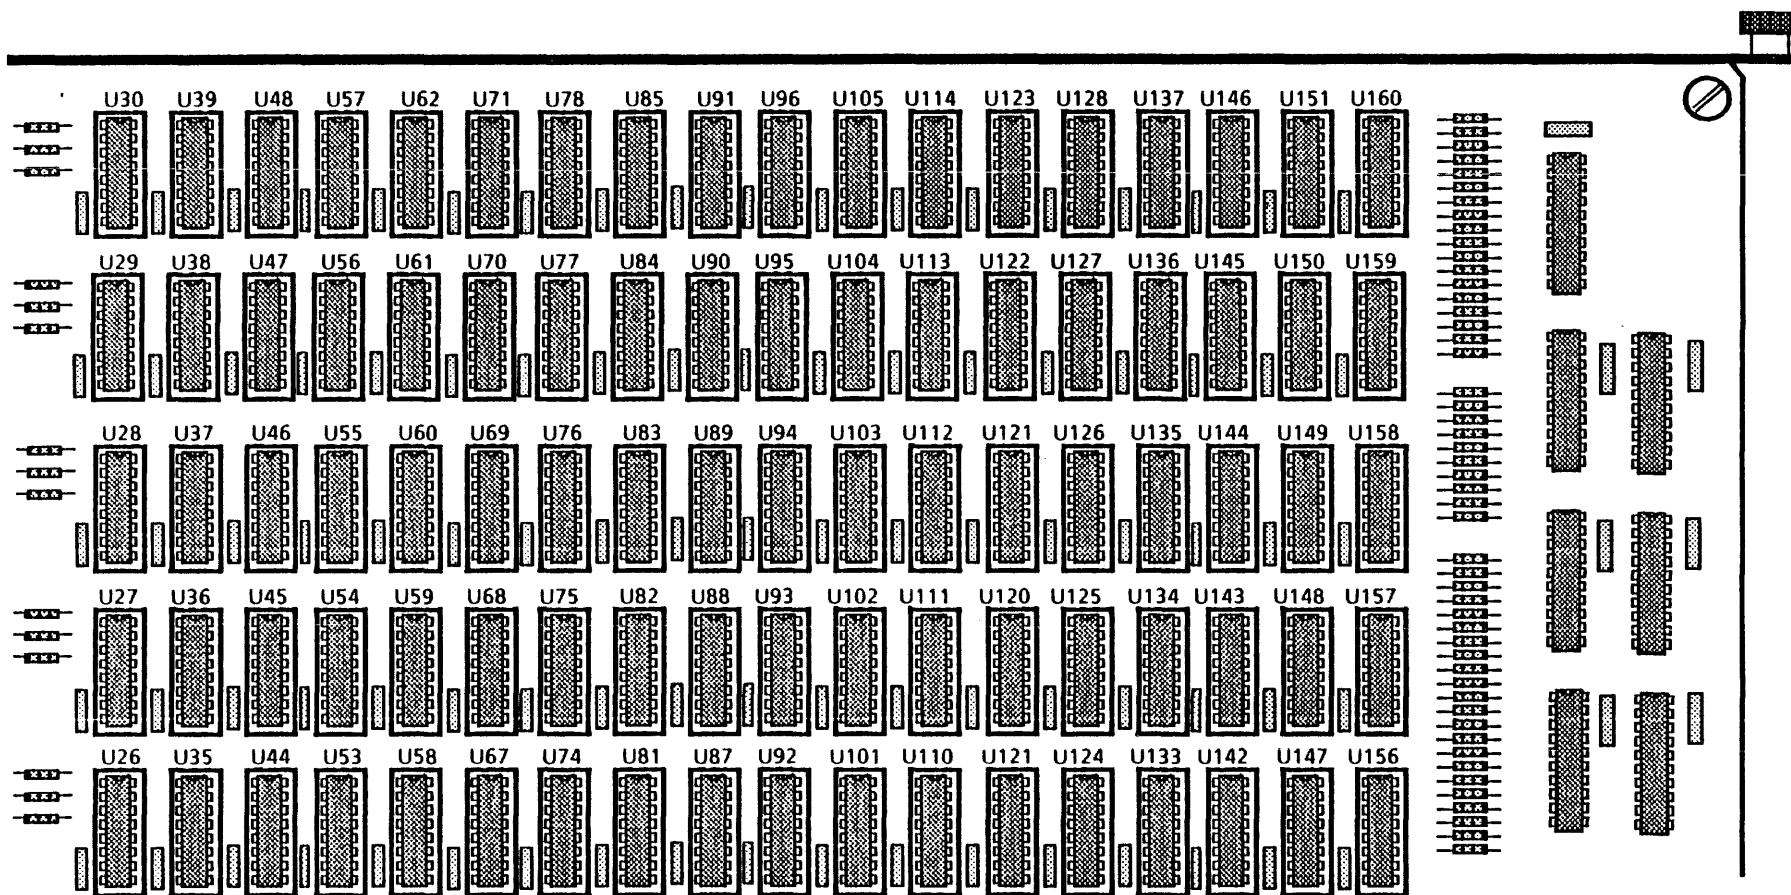

Figure 4.12 - MEB PWBA (shown fully loaded)
1. Determine where the memory chips will be installed. (Figure 4-12)